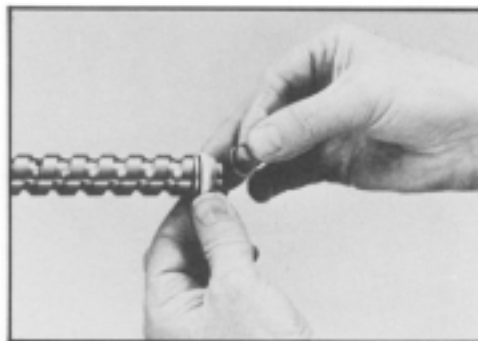

Figure 123
21. Compress the seal components just assembled on worm shaft (23) and assemble retaining ring (29). Be sure the retaining ring is properly seated in its groove in the worm shaft and in the retaining washer (28) counter bore. SEE FIGURE 123. Remove subassembly from vise.